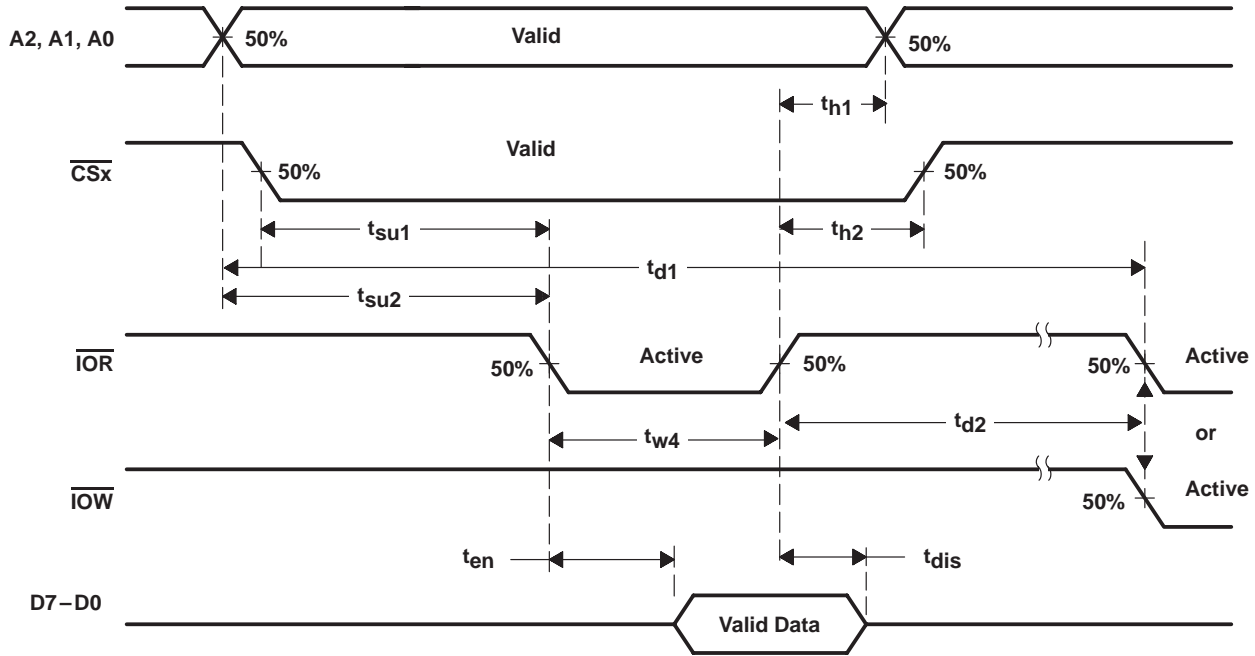

Figure 4. Read Cycle Timing Waveforms
**read cycle timing requirements over recommended ranges of operating free-air temperature and supply voltage (see Figure 4)**
**read cycle switching characteristics over recommended ranges of operating free-air temperature and supply voltage,  $C_L = 100$  pF (see Note 4 and Figure 4)**